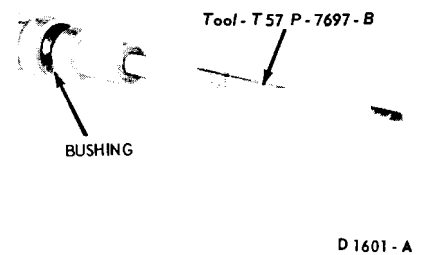

FIG. 21—Installing Extension Housing Bushing
3. When installing a new bushing use the special tool shown in Fig. 21.